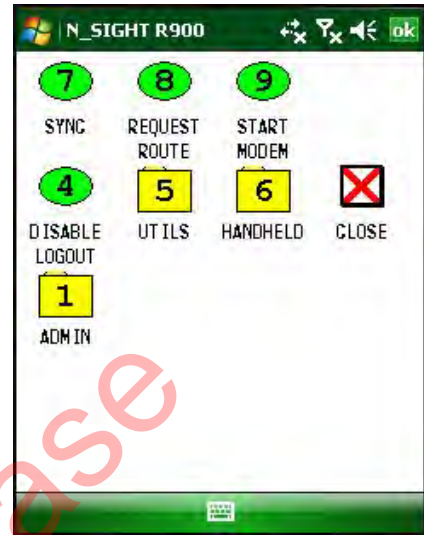

Figure 10.2 N\_SIGHT R900 Main Menu
The N\_SIGHT R900 Main Menu appears, as illustrated in Figure 10.2.
- 2 The N\_SIGHT R900 Main Menu appears as illustrated in Figure 10.2 on Page 10-8.